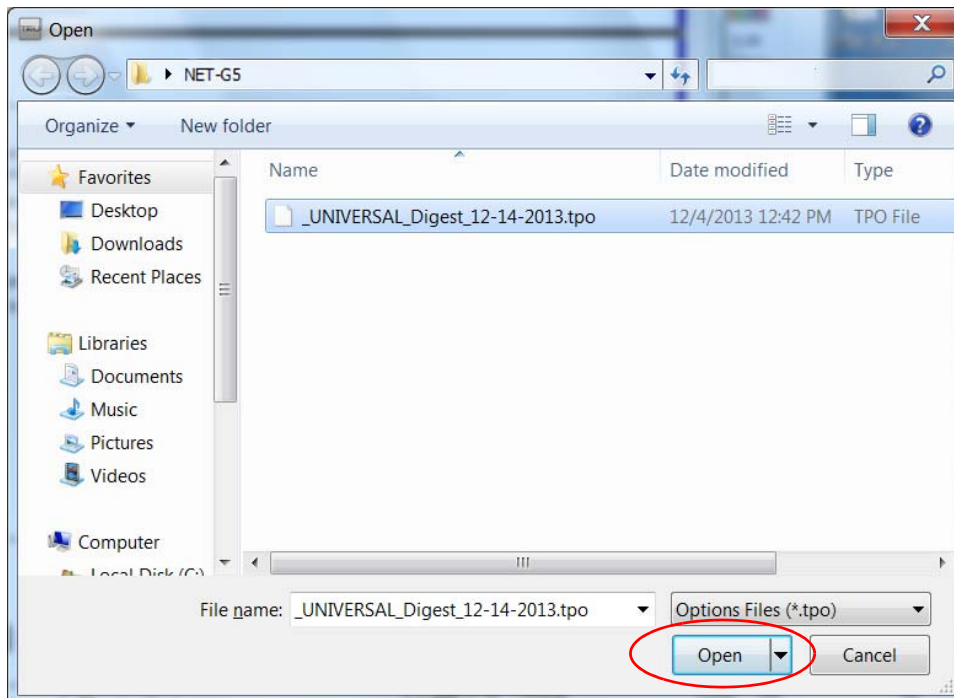

Figure 22: Load OAF
4. Select the appropriate file, and click **Open** (Figure 22).